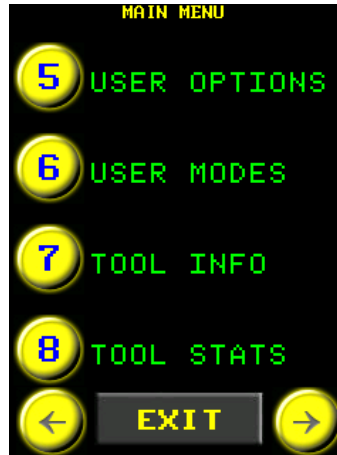

Figure 5.4-1: Main Menu
2. Select "User Options" from the Main Menu (Figure 5.4-1).